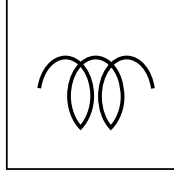

Figure 41. Pre-Heat Lamp
- Depending on the temperature of the coolant (cold weather conditions), the pre-heat lamp (Figure 41) will light (**ON**) and remain on until the pre-heating cycle has been completed. After completion of the pre-heating cycle, the light will go **OFF** and the engine can be started